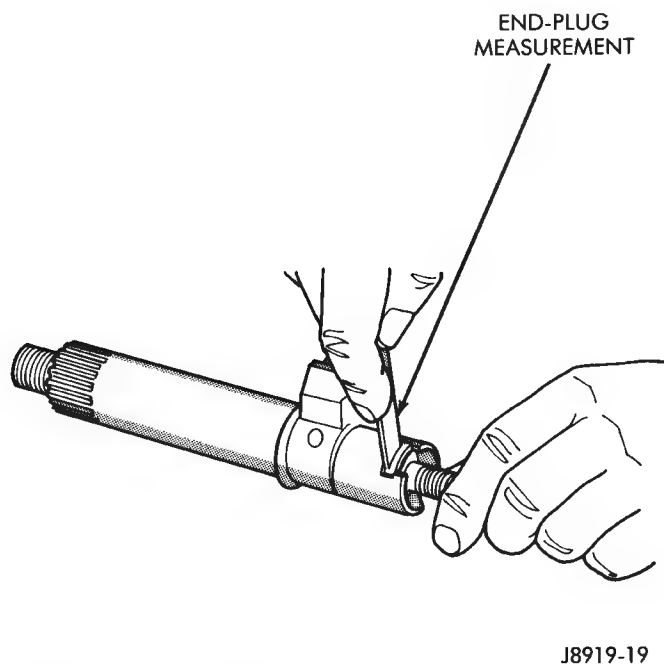

Fig. 9 Adjustment Screw End-Play Measurement
(2) Inspect the housing for cracks, porosity, damaged threads and scoring/distortion of the gasket surface area. Repair or replace as necessary.
(3) Inspect the pitman shaft contact surface and the teeth for wear, pitting, and other damage. Replace as necessary.
(4) Insert the pitman shaft in the steering gear housing shaft bore and inspect for excessive shaft or housing shaft bore wear. The shaft should have a smooth, bind-free fit with no visible side play when installed in the shaft bore.
(5) If the shaft fit is loose but it is not visibly worn, trial fit a replacement pitman shaft in the housing shaft bore. If the replacement shaft also has a loose fit, replace the housing. However, if the replacement pitman fits properly, replace the original pitman shaft.
(6) Measure the pitman shaft adjustment screw fit and end-play in the T-slot (Fig. 9). When installed, the adjustment screw must rotate freely and not bind in any position. Measure the end-play by inserting a feeler gauge between the screw head and the T-slot surface. **The end-play must not exceed 0.05 mm (0.002 in). If end-play exceeds the specified limit, install a replacement shim to reduce the end-play.**